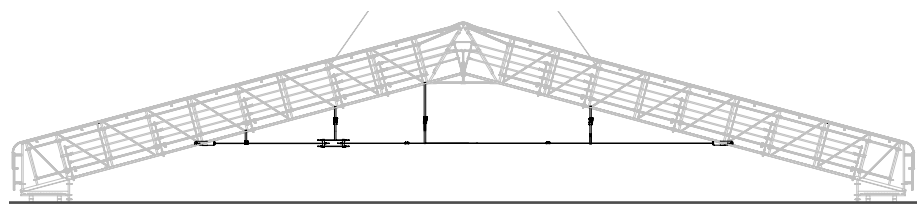

Fig. A8.01b
- on the 1st Basic Element. (Fig. A8.01b)